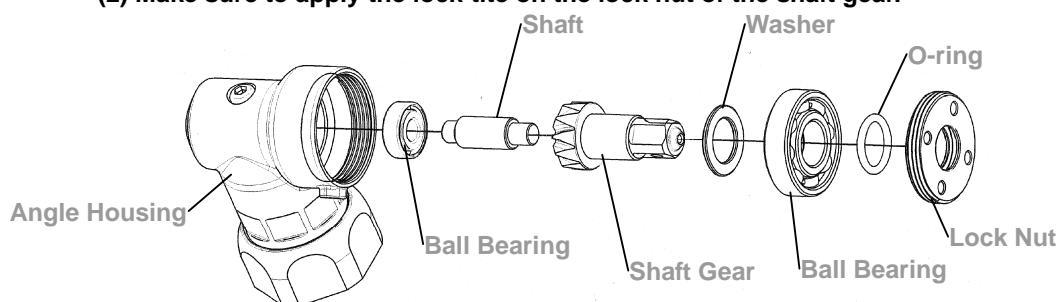

Fig. 372
**(8) Angle Housing Unit Assembly:**
- ①** Assemble the parts in Fig. 372 one by one orderly into the angle housing. Then, fix the angle housing unit. Use the torque wrench and the appliance clockwise to tighten the lock nut of the shaft gear. See Table 51 in reference to the proper appliance selecting.